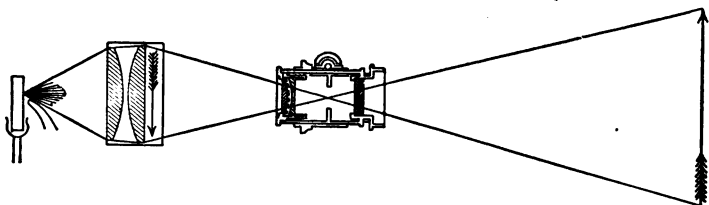

FIG. 64. — Projection lantern or moving-picture machine.
2. When the object is between f and $2f$ the image is beyond $2f$, real, inverted, and larger than the object. This is the position used in the projection lantern. The slide is placed in the lantern at a distance a little greater than $1f$, the image being formed on the screen enlarged and inverted, as in Fig. 64.